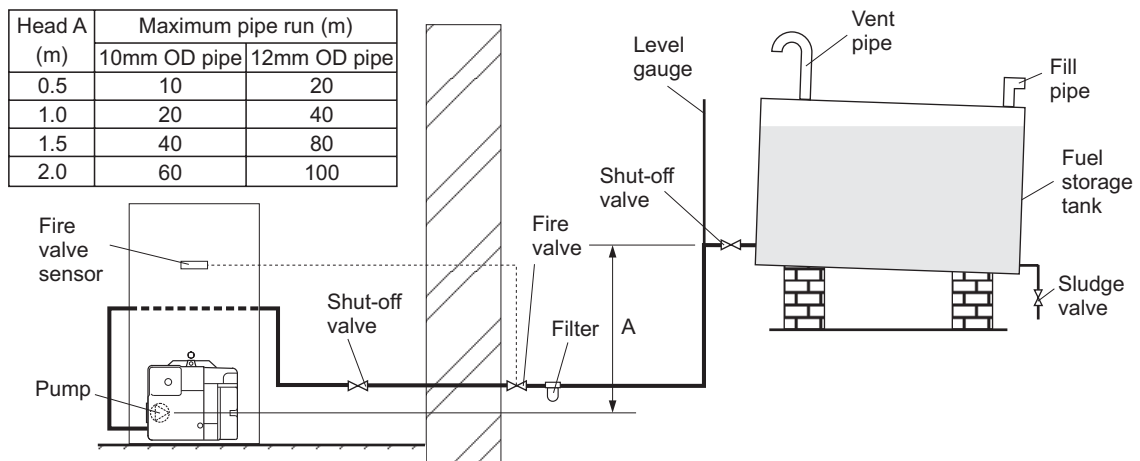

Fig. 3 - Single pipe system
- 5 A flexible fuel hose, adaptor and $\frac{1}{4}$ " BSP isolation valve are supplied loose with the boiler for the final connection to the burner. If a two pipe system or 'Tiger Loop' type de-aerator is used, an additional flexible fuel hose (600 mm) and $\frac{3}{8}$ " to $\frac{1}{4}$ " BSP male adaptor are available to purchase from Grant Engineering (UK) Limited, Part No. RBS104.
4.4.3 Single pipe system - (See Fig. 3)